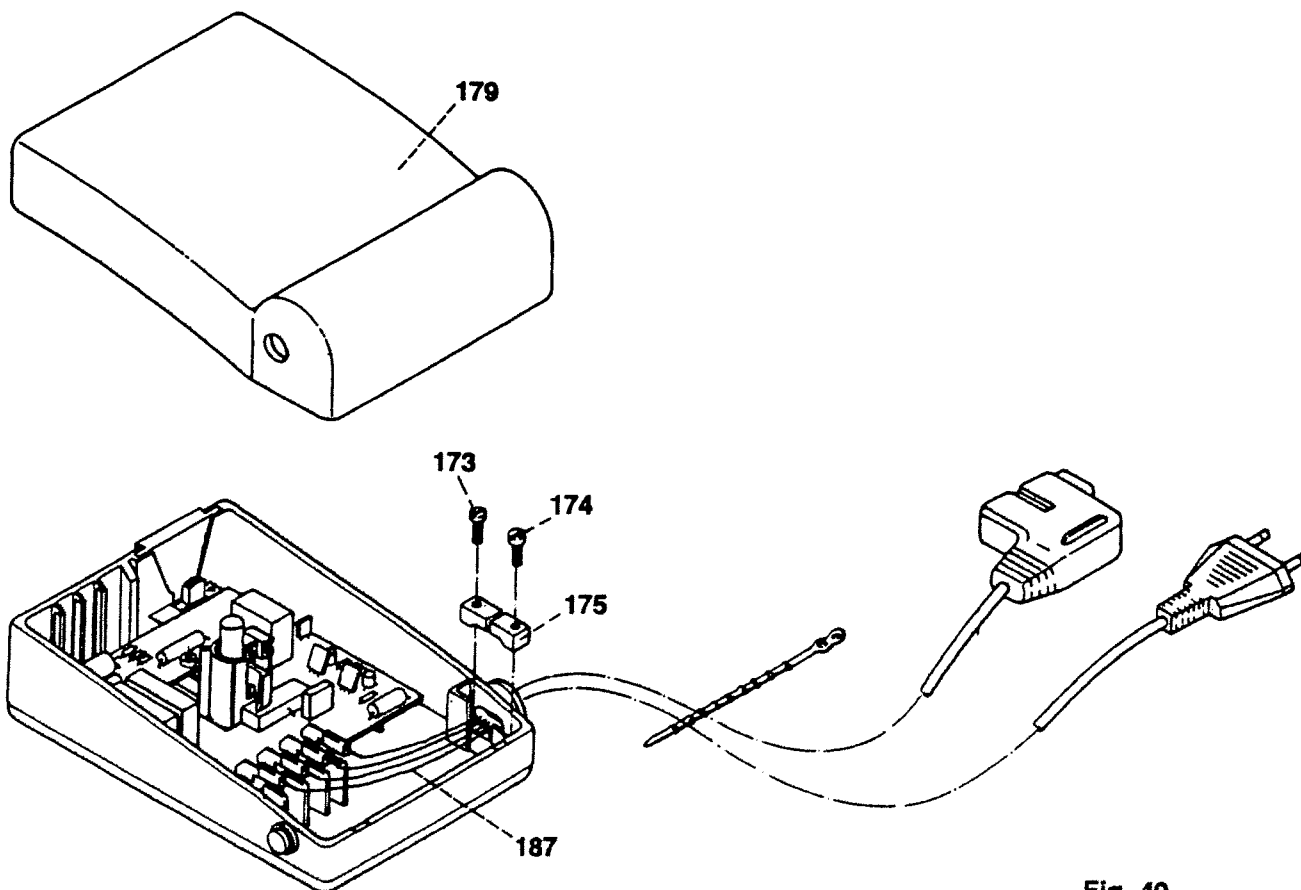

Fig. 49
- Insert a screwdriver with a wide blade on the side opposite the cables (fig. 49).